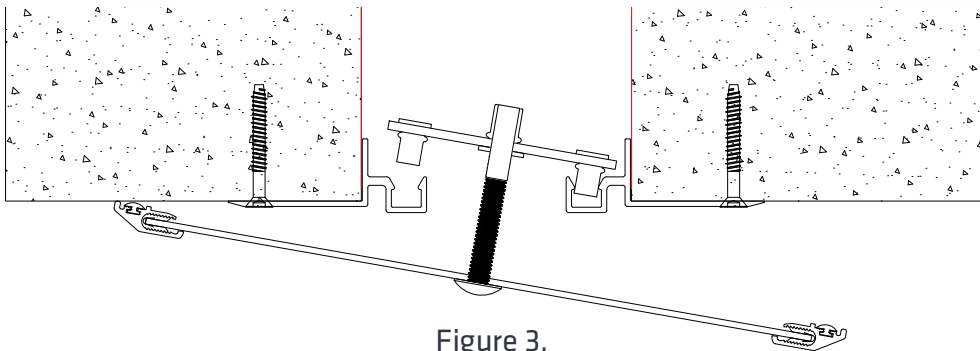

Figure 3.
13. Place the Wall Cover with Turnbar Assembly against one side of the Seismic Expansion Joint at an angle that will allow hand penetration behind the Cover Plate (see Figure 3 & 4). With the Cover Plate in this position, reach behind the Cover Plate and locate the top pivot pin of the Turnbar into the pivot pin receivers of the Frame on each side of the joint (one side on DK-4000).